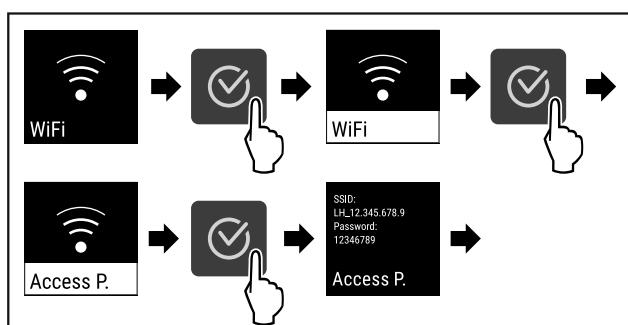

Fig. 74
- Complete the steps (see Fig. 74).